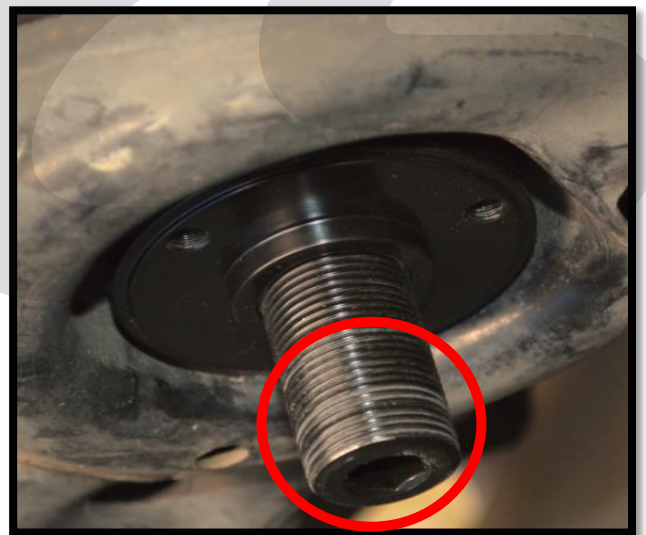

Figure 9b
- b) Adjust the rear height of the CorkSport coilovers . You can adjust the rear with a 10mm Allen wrench (shown in Figure 9b) making sure that the adjustment nut is loose and turn the adjuster until you are at your desired height. Then hand tighten the locking nut down. Finally tighten the 10mm Allen to lock the locking nut in place. Match both sides so they are the same height.